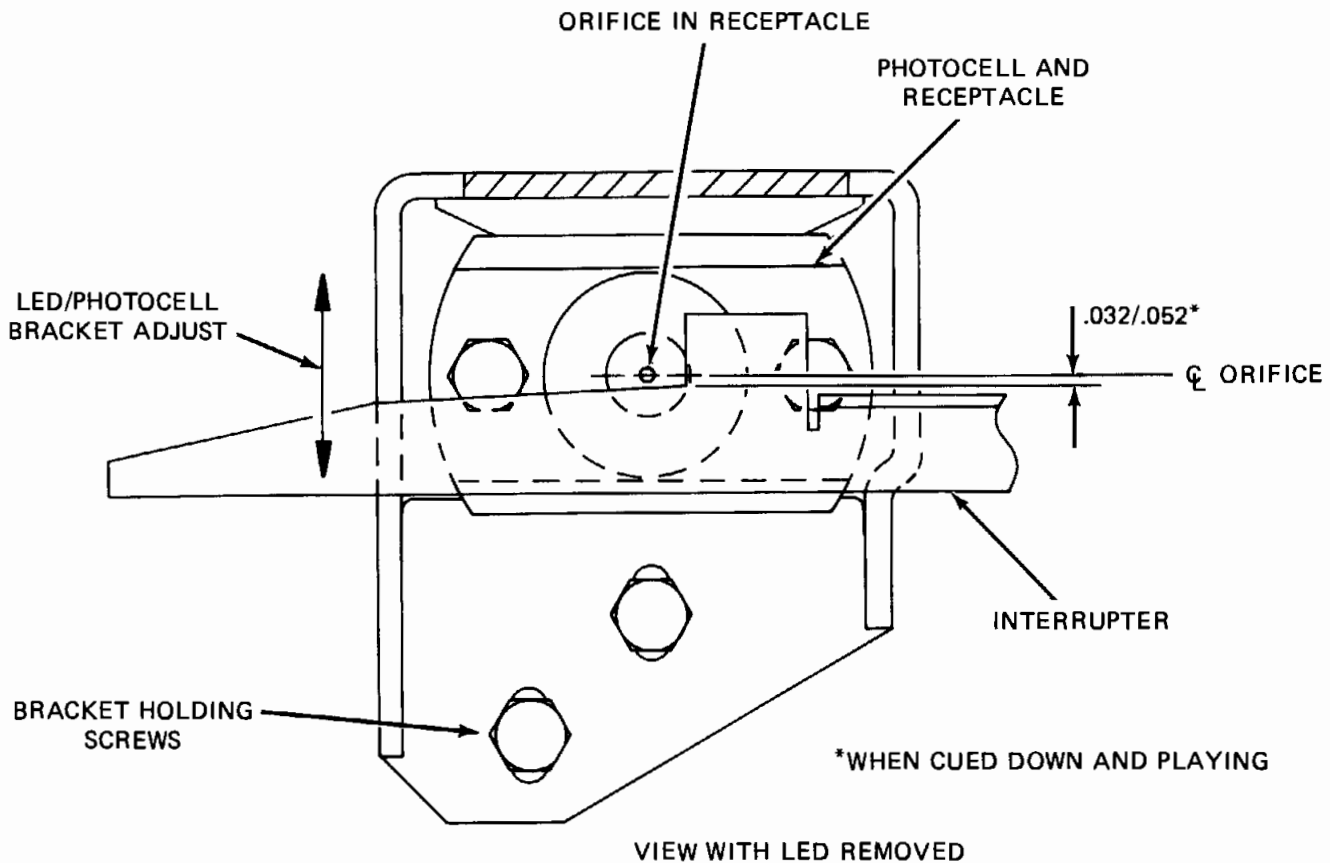

Figure 9. Led/Photocell bracket adjustment
### D. Method of Adjustment (Refer to figure 9) (Use Tool No. 2)
1. With the unit in the stop position and the arm cued up, move the carriage to the left approx. 1/4" from its limit of travel. Cue the arm down. Loosen the two screws and position the LED/Photocell assembly until the rear edge of the interrupter is as shown in Figure 9. Tighten both screws, making sure the assembly does not move.